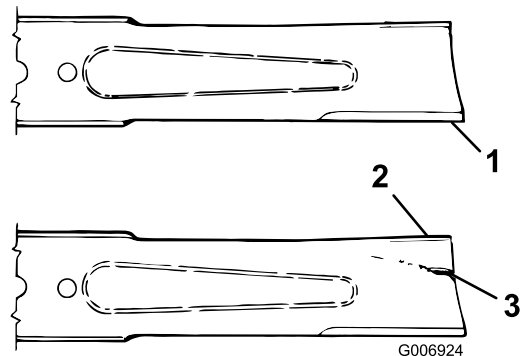

Figure 31
2. Inspect the cutting edges (Figure 31). If the edges are not sharp or have nicks, remove the blades and sharpen them; refer to Sharpening the Blades \(page 27\).
3. Inspect the blades, especially the curved area (Figure 31). If you notice any damage, wear, or a slot forming in this area (Figure 31), immediately install a new blade.